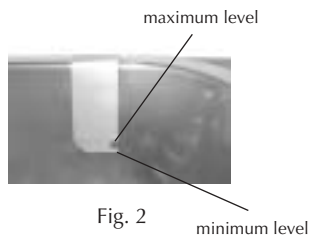

Fig. 2
Now fill the basin with GFC silicone oil, without small saucepans, until reaching an intermediate level between minimum and maximum, indicated on the small plate inside the basin itself (see Fig. 2).
- Do not touch the high-temperature parts of the instrument. To this purpose a warning symbol may be found, indicating danger of burning (5).
- Always turn off instrument after use, thereby avoiding overheating of oil. Never use the instrument without oil or however with quantities either inferiors or superiors to the minimum and maximum limits indicated inside the basin (see Fig. 2), checking level without small saucepans.
Check (with small saucepans) the quantity of oil in the basin every time instrument is used, always guaranteeing a level included between the minimum and maximum limits foreseen (see Fig. 2); in case any filling up is carried out, only use GFC silicone oil.